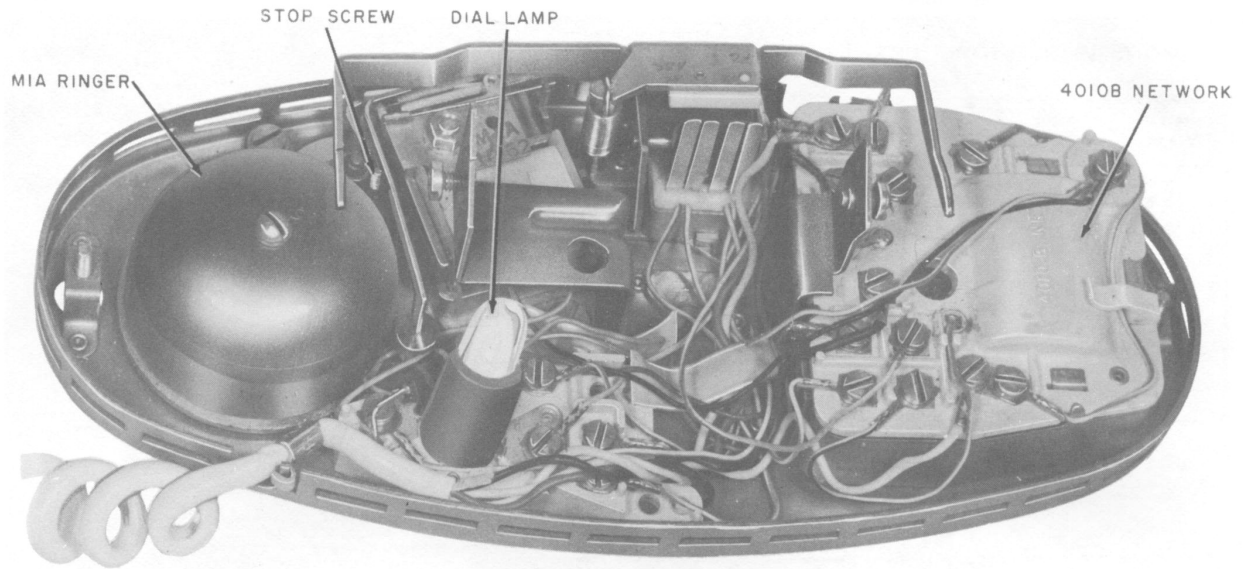

Fig. 4—702D Telephone Set, Dial and Housing Removed
2.06 The 702D telephone set (Fig. 4) is similar to the 701D (MD) except that an M1A internal ringer is provided.